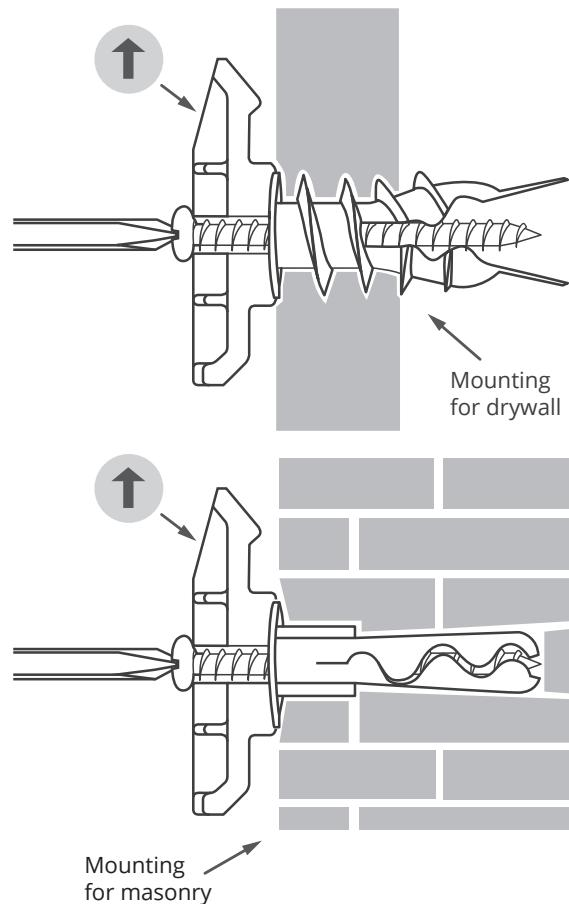

Fig. 3
- 3 Screw the two mounting clips (with arrow pointing upward) into the top two anchor locations and secure firmly to the wall anchors using the provided screws. (see Fig. 3). DO NOT overtighten. There should be a gap behind the mounting clip to hang the heater on.